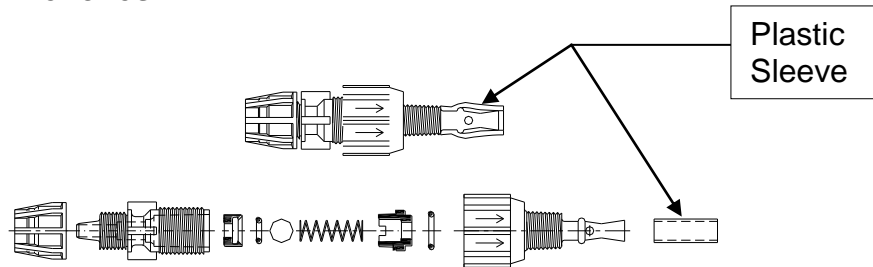

Figure 4: Injector valve
4. Apply pipe tape to the injection fitting threads and install into piping system. **Do not remove the plastic sleeve on the tip of the fitting; it is a functional part** (See Figure 4).